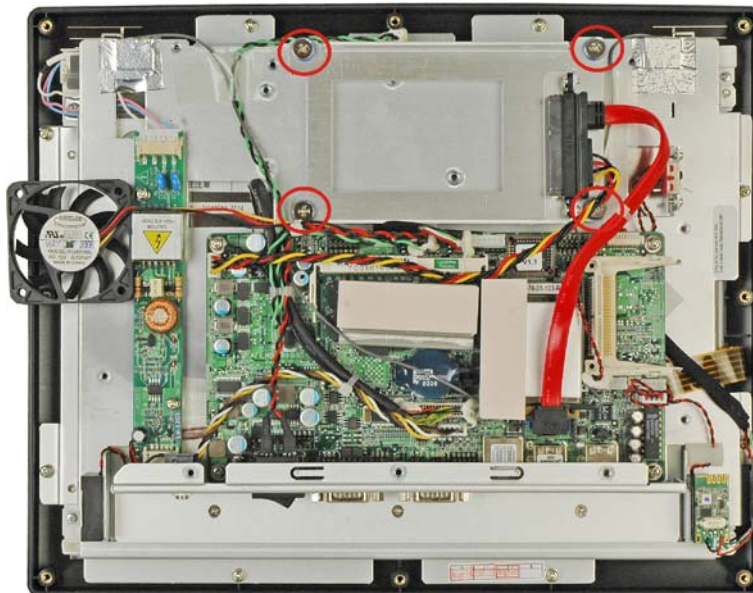

Figure 3-5: AFL-12B-9103-R10 Bracket Retention Screws
Step 3: Remove the four hard drive bracket retention screws (**Figure 3-5**) and lift the hard drive bracket off the panel PC.